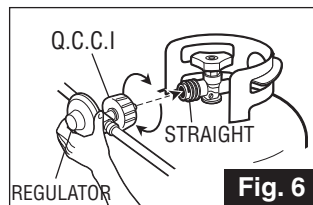

Fig. 6
- It will not allow gas to flow until a positive seal has been made (Figure 6)
Prior to attaching the propane cylinder to the hose and regulator, be sure the cylinder valve and the appliance valves are OFF. The cylinder valve is turned off by rotating the handwheel (see Figure 3) clockwise (left to right) until it stops and all appliance valves should be in the twelve o'clock position. When attaching the regulator to the cylinder, make sure that the small probe in the nipple is centered in the mating Q.C.C. 1 cylinder valve (see Figure 6). Turn the right hand threaded Q.C.C.1 black nut onto the valve in a clockwise motion until there is a positive stop.